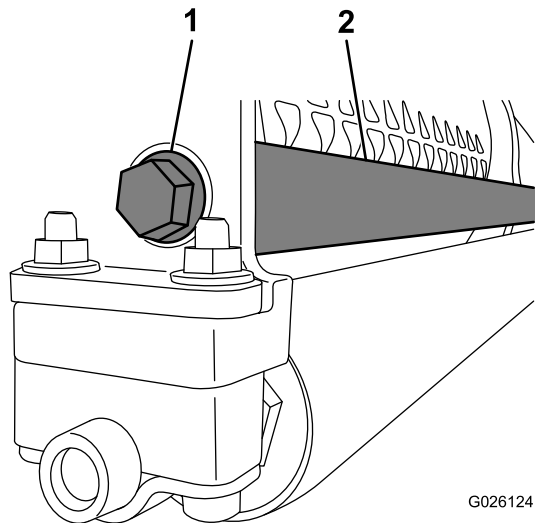

Figure 6
4. Secure the threaded end of the weight rod to the frame using a flange-head bolt (Figure 6).